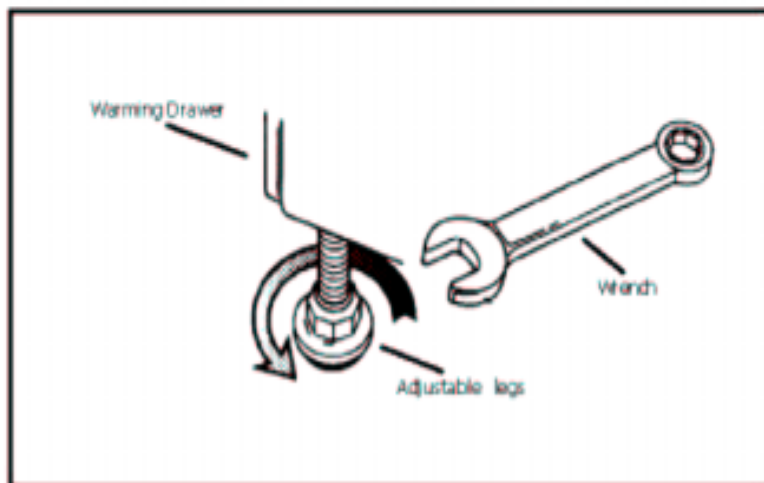

Figure 6
1. Adjust height of range and level by rotating the adjustable leg supports, (see Figure 6) using 1-1/4" wrench.